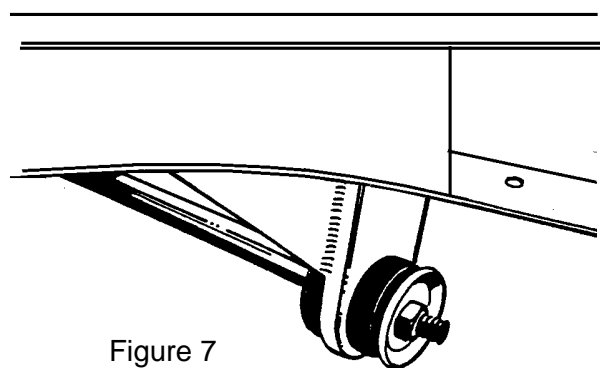

Figure 7
10. Install the strut rod onto the control arm. Now, assemble onto the strut rod the large rubber bushings, including the cupped washers, and the strut mount plate. Be certain to fully tighten the nut on the strut rod to its fully seated position. (See Figure 7) There are two rubber bushing sets available; the standard replacement and the improved set. We recommend the improved set, as it provides more stability to the front suspension. The Pinto and Mustang strut rods are different lengths. We recommend the use of Pinto strut rods, as they are bent less than the Mustang strut rods. You will find that with either strut rod the strut rod plate does not line up with the bottom of the frame rail. The strut rod must be heated in the elbow area and bent outward. The rod is bent outward until the strut mounting plate lines up with the frame rail. You will find that because the Pinto strut rod is initially bent less and requires much less bending. The strut rod will act as an alignment fixture while you tack weld the mount plate in place, then tack weld the gusset in place. Remove the strut rod, bushings, and arm, and finish welding to the frame and each other.